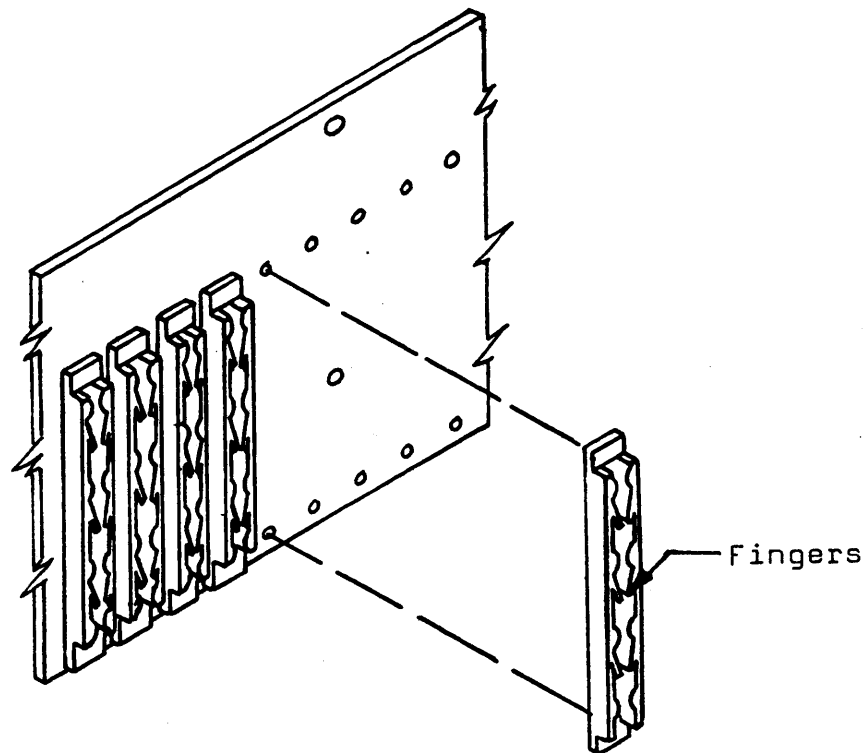

FIG. 8
- () Locate the 38 Card guides. Referring to Fig. 8 and the insert position a card guide with the "fingers" pointing down. Then push the guide into the front most holes in the side plate. This is best done by rocking the guide as you push the plastic pin through the hole. It is also easier if you push each end of the card guide in separately. You may also find it helpful to squeeze together the plastic pins with a pair of pliers before you push them in place.